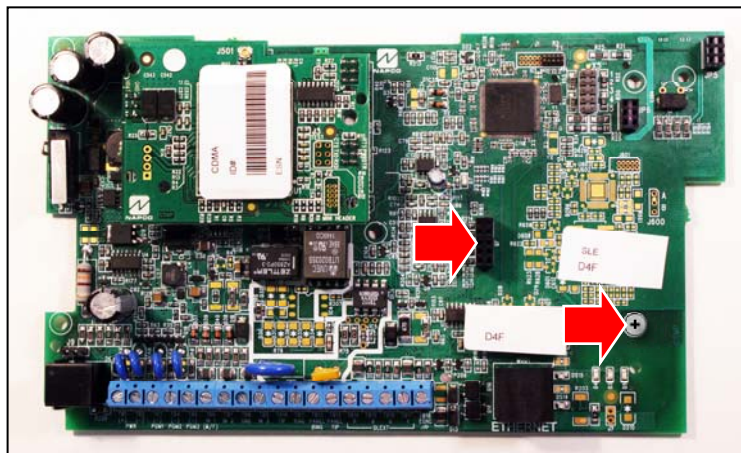

Fig. 2: "Header Socket" (left arrow) and existing screw (right arrow)
2. Remove existing screw (see Fig. 2). This vacant screw hole will be used for the **Standoff** and a supplied **Screw**.
5. Find the radio **Header Socket** (see Fig. 2). With radio power off, align the **Standoff** and **Screw** with the screw hole left vacant in step 2. Carefully align all pins of the **Header Plug** with the **Header Socket**.